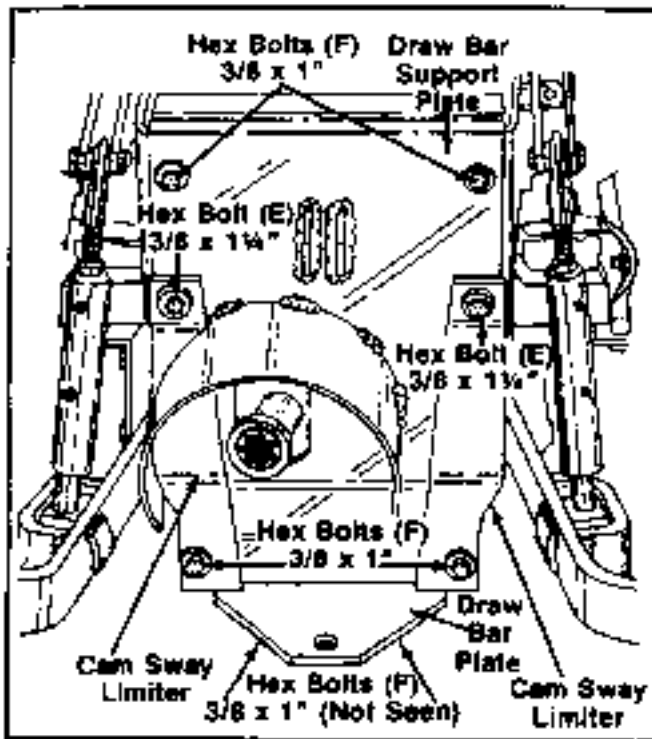

FIGURE 36.
45. Assemble the draw bar support plate to the rockshaft support plates, with two hex bolts (F) $3/8"$ x $1"$ long and lock washers (P). Use top hole only. See figure 36.
46. Place the cam sway limiters in position as shown in figure 36. Secure the top holes with $3/8"$ x $1\frac{1}{4}"$ bolts (E) and the bottom holes with $3/8"$ x $1"$ bolts (F). See figure 36.
47. Secure the draw bar support plate to the draw bar plate, with two hex bolts (F) ($3/8"$ x $1"$ lg.) under draw bar. See figure 36.